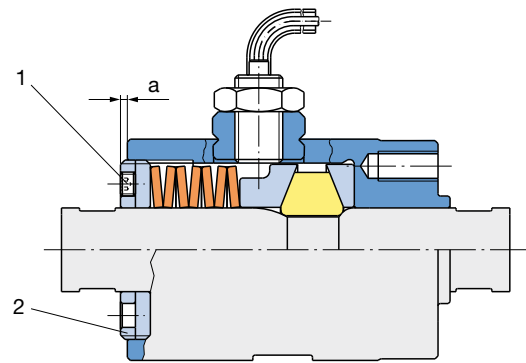
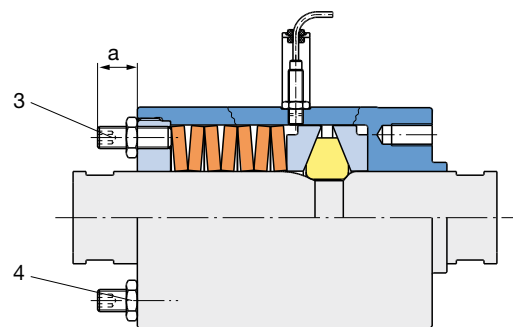

Fig. 3
Fig. 4
There are 4 or 6 set screws (3) in the adjusting nut (2), which can be set to Dimension "a" (see Fig. 3). Countering the set screws (3) with hexagon nuts (4) prevents inadvertent changes to the adjustment. The Adjustment Diagram shows the relationship between Dimension "a", Fig. 4 and the release force. On request, we can deliver the EAS®-axial pre-set to the required release force.